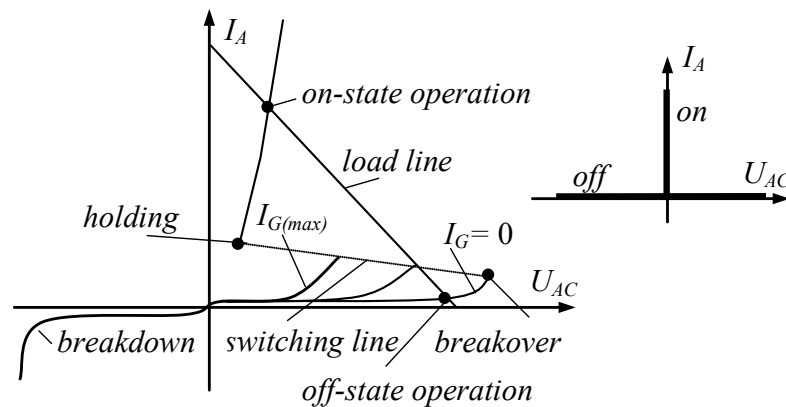

Fig. 1.49
**Output characteristics.** Fig. 1.49 illustrates the output curves and idealized output characteristics of a thyristor. The device has two operating regions: non-conducting and conducting. The current-voltage output characteristics for different gate currents show the forward bias. The output characteristic of a thyristor in the reverse bias is very similar to the same curve of the diode with a small leakage current. Using the same arguments as for diodes, the thyristor can be represented by the idealized characteristic in analyzing the circuit-desired topologies.